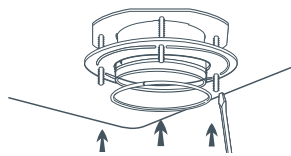

Fig. 5 Fixing the mounting system to the underside of the sink
- 4 Approaching from under the sink, slide the protector ring and mount ring onto the underside of the sink flange. Fit the flange ring into the track on the sink flange, then tighten the 3 mounting screws evenly and securely (fig.5).